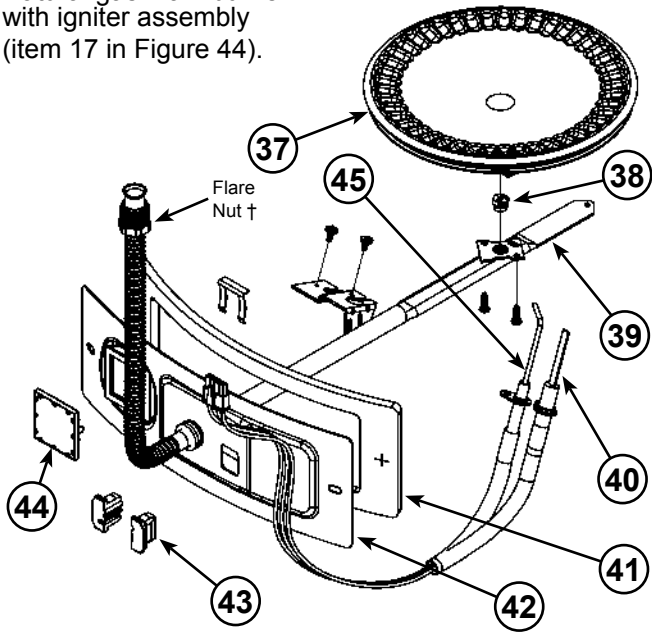

Figure 46
- 17 Manifold Door Assembly (behind outer door) (see Figure 3 (NG) or Figure 4 (LP)) (see also **Figure 46**)
- 37 Aluminum Burner (see Figure 3) (see also **Figure 46**)
- 38 Gas Orifice (see Figure 3) (see also **Figure 46**)
- 39 Gas Manifold (see Figure 3) (see also **Figure 46**)
- 40 Hot-Surface Igniter (see Figure 3) (see also **Figure 46**)
- 41 Manifold Door Gasket (see Figure 3) (see also **Figure 46**)
- 42 Manifold Door (see Figure 3) (see also **Figure 46**)
- 43 Two Piece Grommet With Clip (see Figure 3) (see also **Figure 46**)
- 44 Viewport (see Figure 3) (see also **Figure 46**)
- 45 Flame Sensor Rod (see Figure 3) (see also **Figure 46**)